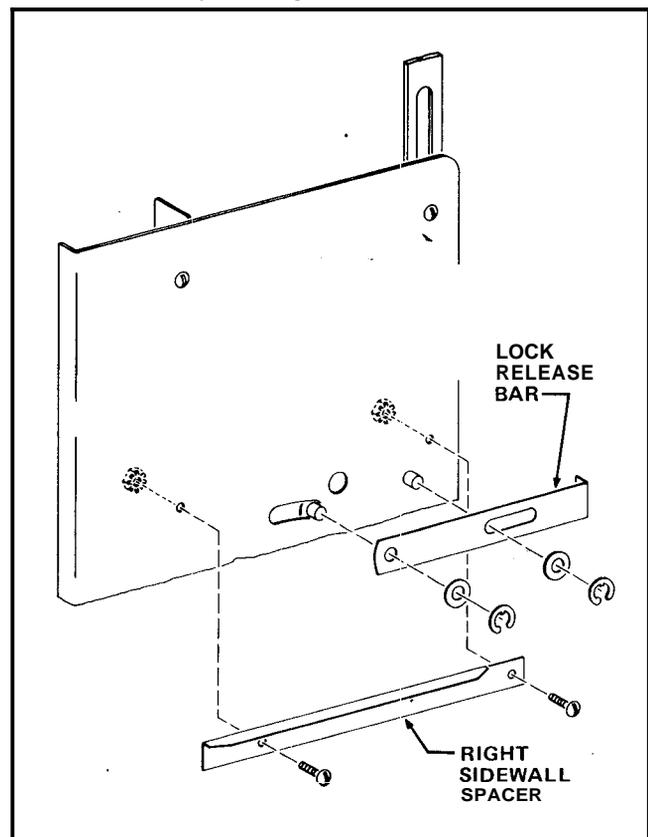

FIGURE 5-2
23. Remove two Retaining Rings, two Washers, and Lock Release Bar from the Right Sidewall. Retain the Lock Release Bar for use on the replacement Right Sidewall and ACMR Assembly. See Figure 5-2.
24. Remove two No.8-32 Nuts with Lockwashers, two Spacer Rollers, two No.8-32 x 5/8 RHS Screws and the Right Sidewall Spacer from the Right Sidewall. Retain the Right Sidewall Spacer for use on the replacement Right Sidewall and ACMR Assembly. See Figure 5-2.